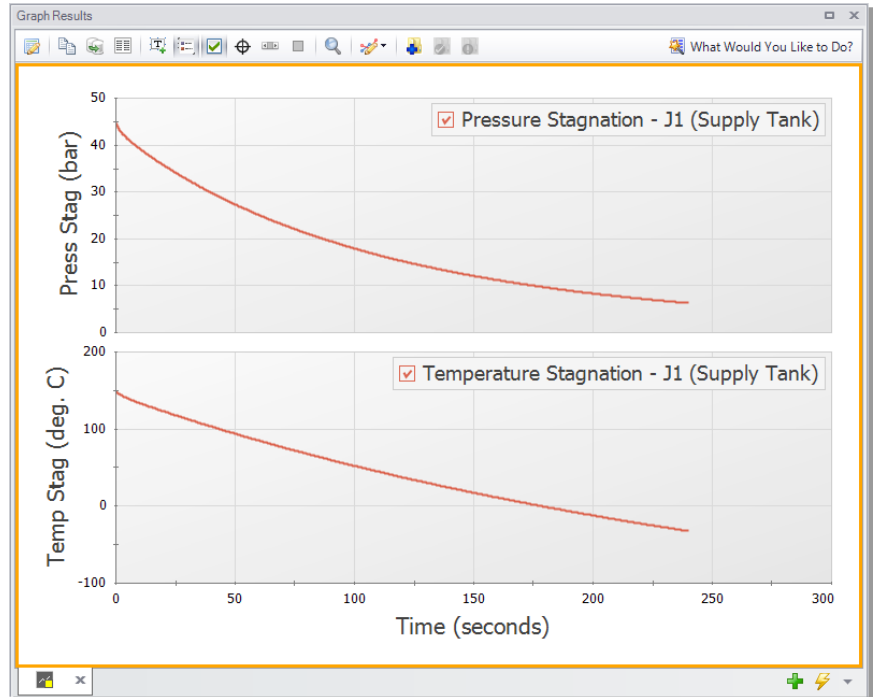

Figure 2.31 The Transient Junction graph shows how variables within a junction change over time. The temperature and pressure of Tank J1 over time are plotted.
- **Click Generate** at the bottom of the Quick Access Panel to display the graph. These graphs show the tank pressure and temperature initially decrease quickly, then decrease more slowly as time progresses. This change in slope is due to a decreasing pressure gradient between the tank and the atmosphere as the tank is emptied, which slows the mass flow rate out of the tank (Figure 2.31).
In AFT xStream, sectioning plays an important role in model accuracy. Due to how the MOC operates, accuracy increases with the number of sections you have in the model. To illustrate this, the model was re-run with a Minimum Number of Sections Per Pipe of 6. Comparing Figure 2.31 to Figure 2.36, values such as the tank temperature and pressure for Tank J1 remain similar with the increase in the number of sections. However, values such as the maximum temperature reached in Pipe 2 (Figure 2.20 and Figure 2.34), changed substantially. This value increased from 919 deg. C to 1203 deg. C. This change in the maximum temperature indicates that the difference in sectioning has significant implications if your interest is in the conditions in the blowdown pipe. It should be noted that changing the Minimum Number of Sections Per Pipe from one to six caused the computation time of the model to increase from 5-6 minutes to 3.5 hours. Therefore, it is of critical